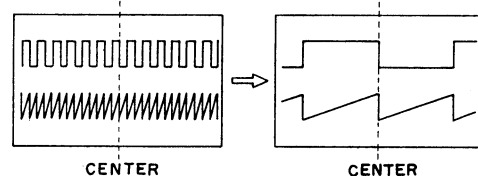

Fig. 5-4
- (i) The PULL X10 MAG function magnifies all the displayed waveform (regardless of the number of displayed channels) 10 times in the horizontal direction as shown in Fig. 5-4.